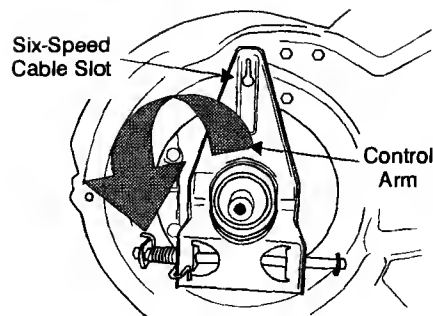

Figure 23
13. Pivot the control arm down away from the pulley and belt. See figure 23.